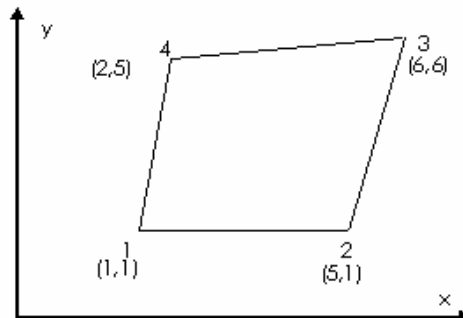

Figure: 2
b) A four-noded quadrilateral element is shown in figure 2. Determine the generalized coordinates of point P whose location in the master element is given by $\xi = 0.5$ and $\eta = 0.5$. [8+8]